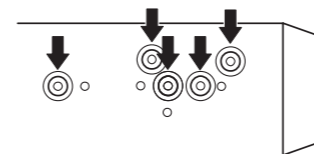
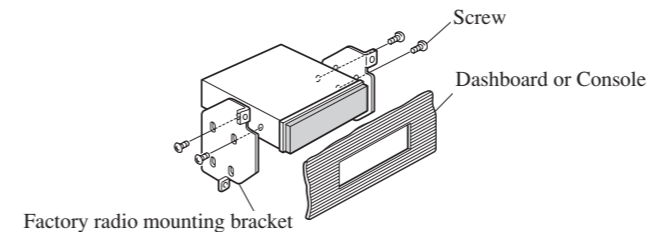

Fig. 8
Fig. 9
**2. Fastening the unit to the factory radio mounting bracket. (Fig. 8) (Fig. 9)**